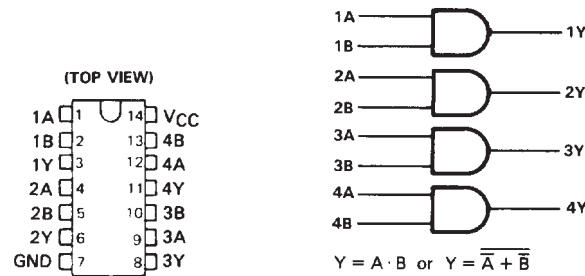
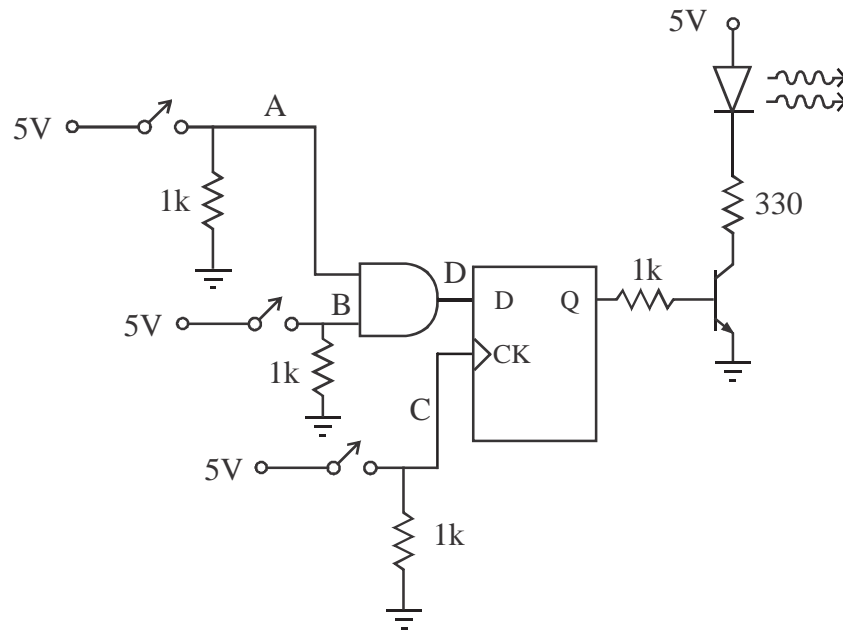
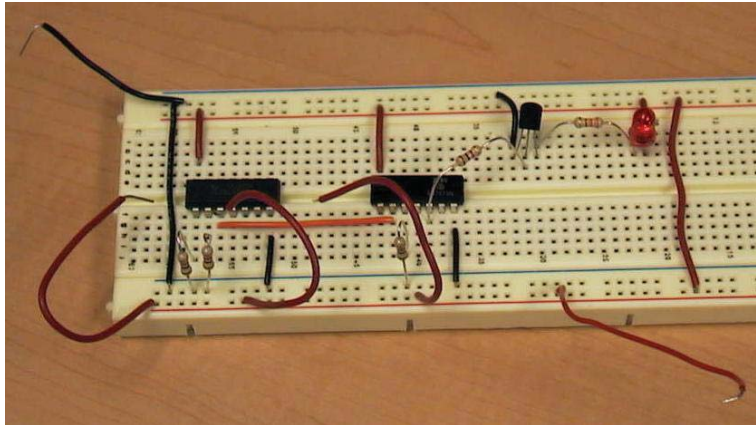
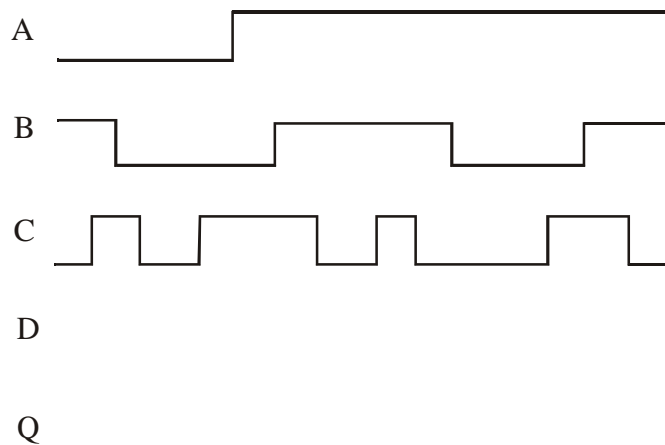

Figure 7.5 Pin-out and schematic symbol diagrams for the 7408
Figure 7.8 Circuit Schematic with Switches, Logic Gate, and Flip-flop
Figure 7.9 Photograph of the Partially-Completed Circuit
Figure 7.10 Positive-Edge-Triggered Circuit Timing Diagram
Figures 7.5 through 7.7 show pin-out and schematic diagrams from the datasheets for various TTL devices used in this exercise. Note that the 7408 includes four AND gates numbered 1 through 4 (e.g., $1Y = 1A \cdot 1B$). The 7474 includes two positive edge-triggered data flip-flops, and the 7475 includes four positive level-triggered data flip-flops (AKA "data latches"). **Note that the 7474 has preset and clear features. Because these features are active low, these pin should be connected to 5V to deactivate them.**
- (1) Using the datasheet pin-out diagrams (Figures 7.5 through 7.7), draw a complete and detailed wiring diagram (showing all connections and all pin numbers) for the circuit schematic shown in Figure 7.8, using a 7474 positive edge-triggered flip-flop. Carefully **label and number all pins that are used on each IC, including power and ground**. You might find Figure 7.9 helpful as a reference because it shows a photograph of a partially-completed circuit.
Note - It is good practice to include a 0.1 μF capacitor across the power and ground pins of each IC (not shown in Figure 7.8 or Figure 7.9). This helps filter out transients that could occur on the power and ground lines during switching. The capacitors are especially important in more complicated circuits where a single power supply may be providing reference voltages and switched current to numerous components.
- (2) Using the detailed wiring diagram you created in Step 1, construct the circuit. Again, Figure 7.9 can be helpful as a reference because it shows the partially completed circuit; although, your main reference should be the wiring diagram you created in Step 1.
- (1) Explain the difference between the output of the two circuits you analyzed and tested. What is the reason for the difference?
- (2) Switches and buttons often experience switch "bounce," especially when contact is made (as opposed to broken). Did bounce affect the output Q of the circuits? If so, in what cases, and why? If not, explain why you think this was the case.
For the positive-edge-triggered circuit (Figure 7.8), assuming bounce occurs during every release of button C , draw a timing diagram showing how the output (Q) would respond for the A , B , and C traces shown in Figure 7.10.